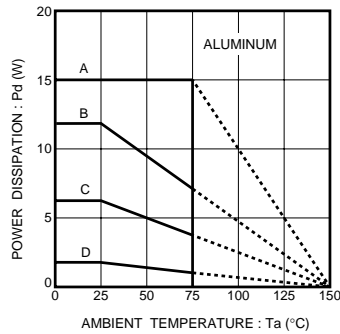

Fig.11 Power dissipation curves (BA5416)
*4 $T_a = 75^\circ C$ (see Fig.11).